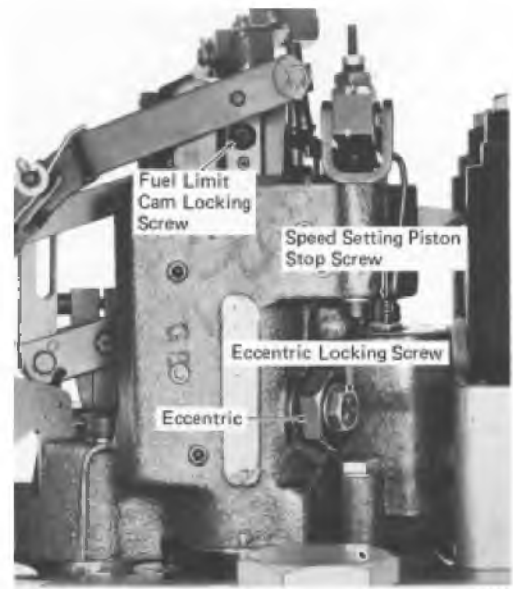

Fig. 12-8 - Speed Setting Piston Stop Screw
5. Adjust speed setting piston stop screw, Fig. 12-8, to position the speed indicator pointer at or slightly above the STOP mark on the speed scale.
4. Loosen eccentric locking screw, Fig. 12-8, and turn eccentric clockwise until sensor piston travels to the top of its stroke.
If rack is not as specified, loosen fuel limit cam locking screw, Fig. 12-8, slightly, and tilt top of cam toward bellcrank to increase rack length, or away from bellcrank to decrease rack length. Tighten locking screw and repeat Steps 12 and 13.